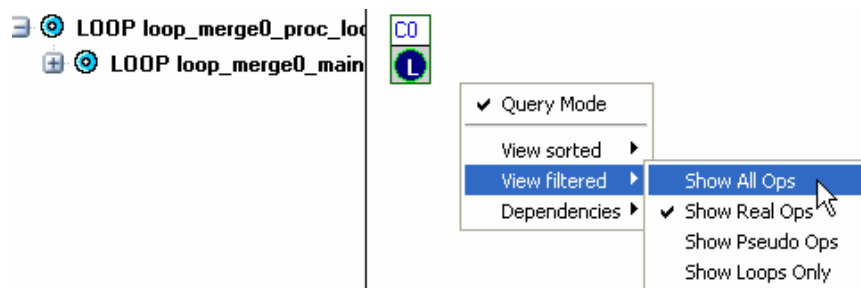

Figure 17
- ✓ Click on schedule and then right-click and select “View filtered -> Show All Ops”(Figure 17).